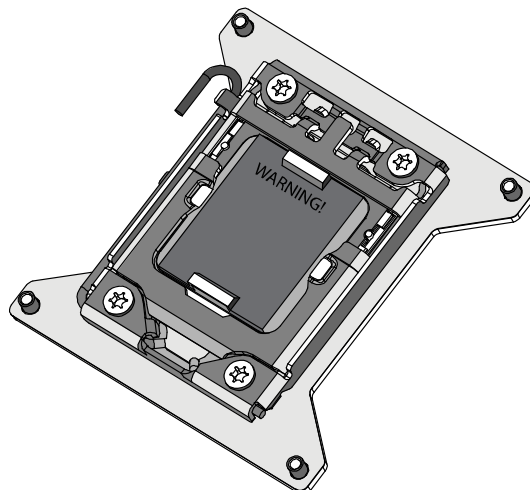

Figure 2-7 CPU Socket schematic diagram
Step 1: First find the CPU slot on the mainboard, shown as the figure 2-7.